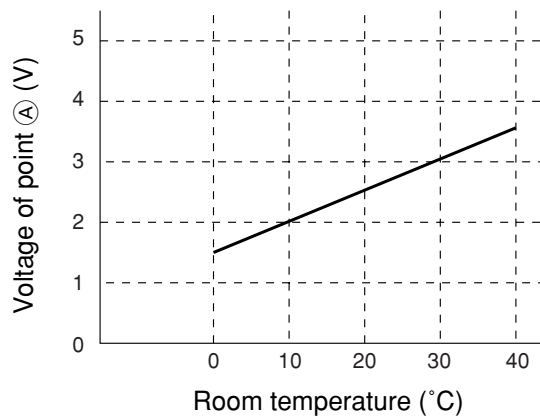

Fig. 3-2
According to room temperature, the voltage of point ① becomes as it is shown in Fig. 3-2.